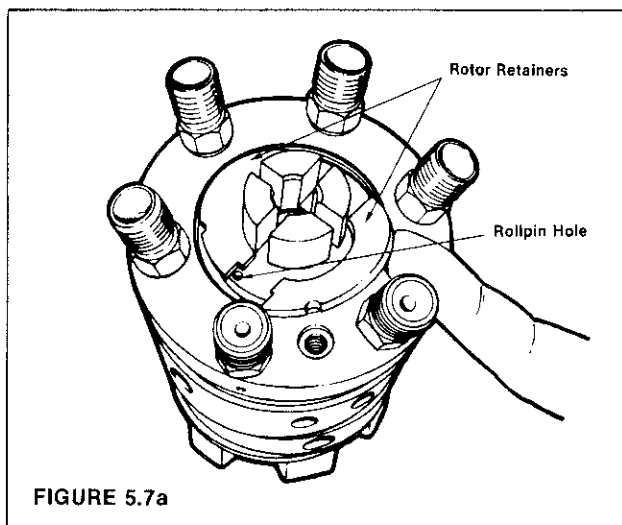

FIGURE 5.7a
STEP 7 While holding the assembly carefully so the rotor will not fall out, invert the entire unit so it rests on the weight retainer. Assemble the rotor retainers to the head and rotor with the cutout portions meeting over the rollpin hole in the hydraulic head (Figure 5.7a).